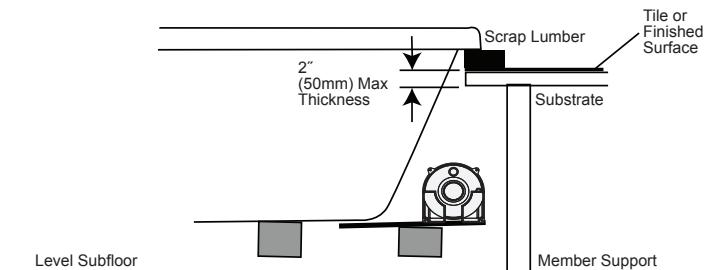

Figure 10
- 8** Install the unit, inserting the equipment-end first, lowering the bathtub into the opening as shown in the illustration (Figure 10).